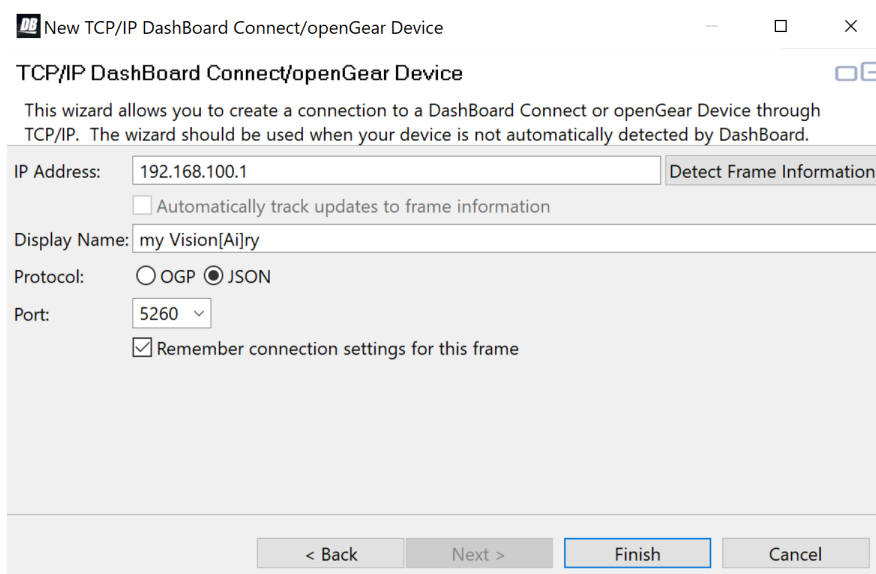

Figure 16 - TCP/IP DashBoard Connect/openGear Device Dialog Box
The **New** dialog box appears (Figure 16).
5. The **TCP/IP DashBoard Connect/openGear Device** dialog box appears (Figure 16).